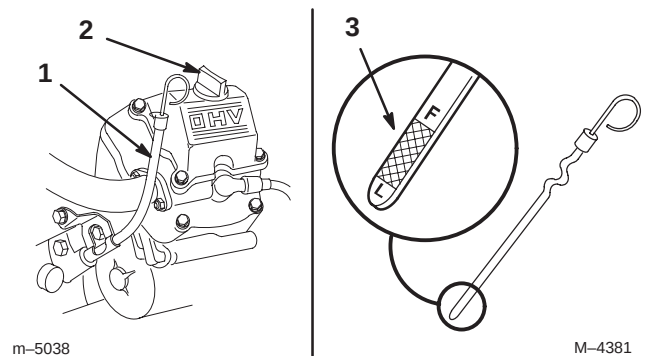

Figure 40
3. Clean around the oil dipstick so that dirt cannot fall into the filler hole and damage the engine (Fig. 40).
4. Pull the oil dipstick out and wipe the metal end clean (Fig. 40).
5. Slide the oil dipstick fully into the filler cap. Pull the dipstick out and look at the metal end (Fig. 40). If the oil level is low, slowly pour only enough oil into the filler tube to raise the level to the full mark.
5. Slowly pour approximately 80% of the specified oil into the filler cap (Fig. 40). Refer to Servicing the Engine Oil, page 35.